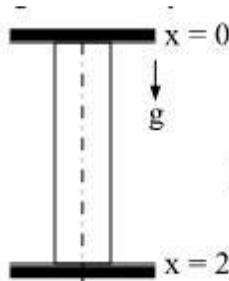

Fig. 1
b)Derive an equation for finding out the potential energy by Rayleigh –Ritz method. Using Rayleigh – Ritz method, find the displacement of the midpoint of the rod shown in Fig.1. Assume $E = 1$, $A = 1$, $\rho g = 1$ by using linear and quadratic shape functions concept.